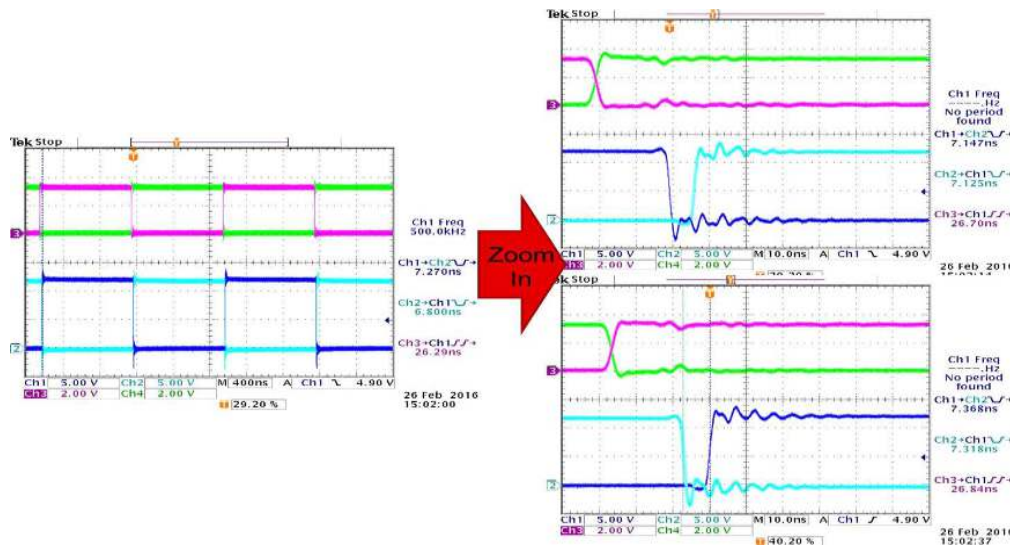

Figure 7-2. Test Waveforms if DT is Left Open (Channel 3 and 4 are PWM Inputs, and Channel 1 and 2 are Driver Outputs)
The dead time (DT) between the outputs of the two channels is around 8 ns, which is preset for interlock protections (see Figure 7-2).